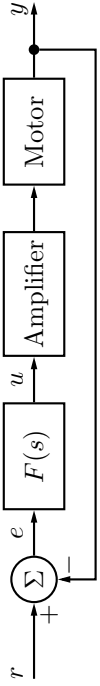
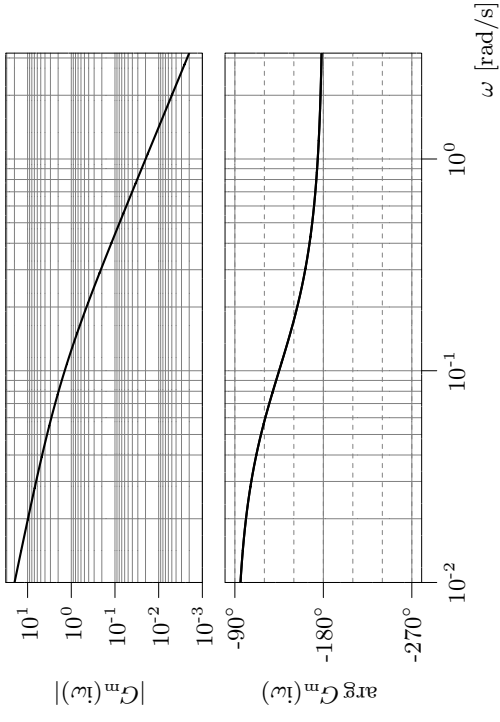

Figure 5.9a
Figure 5.9b
5.9 A servo system based on a DC-motor has to be designed. A block diagram for the system is given in Figure 5.9a. By measuring the phase shift and the gain at different frequencies the Bode plot for the motor, see Figure 5.9b, has been determined. The amplification is a system of the first order, that is, it has the transfer function